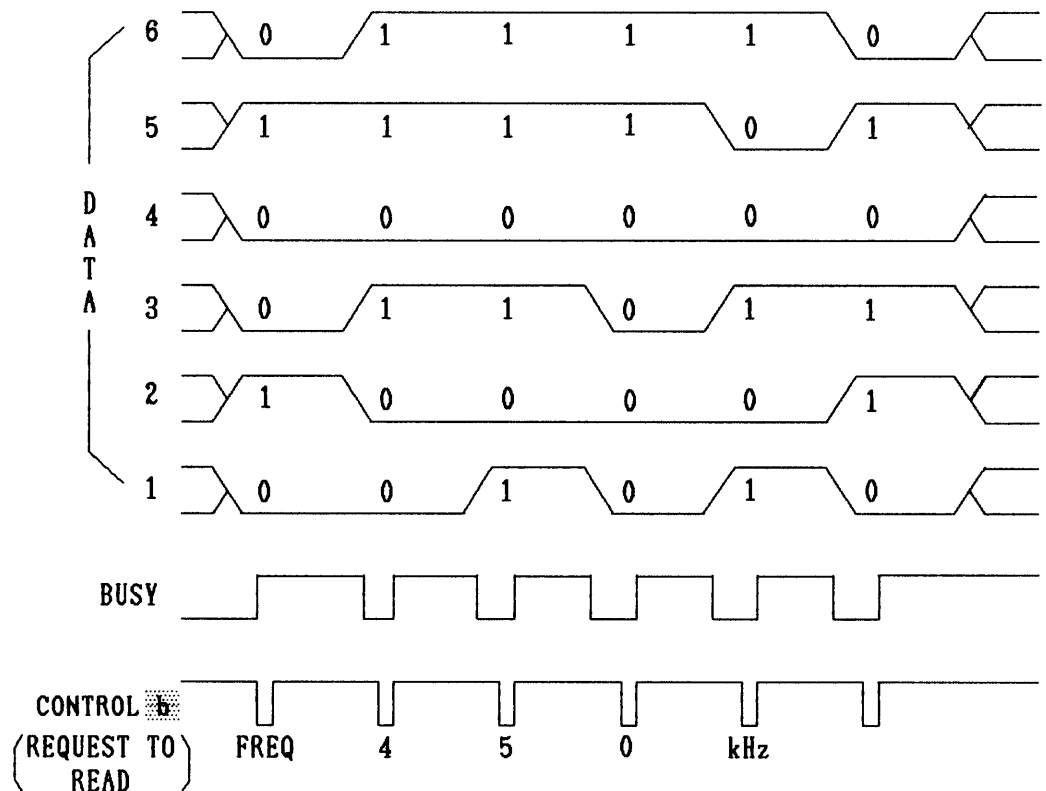

Figure 5-3
- 3) Set the data "450" according to the code table and send CONTROL **b** signal as shown in Figure 5-3.